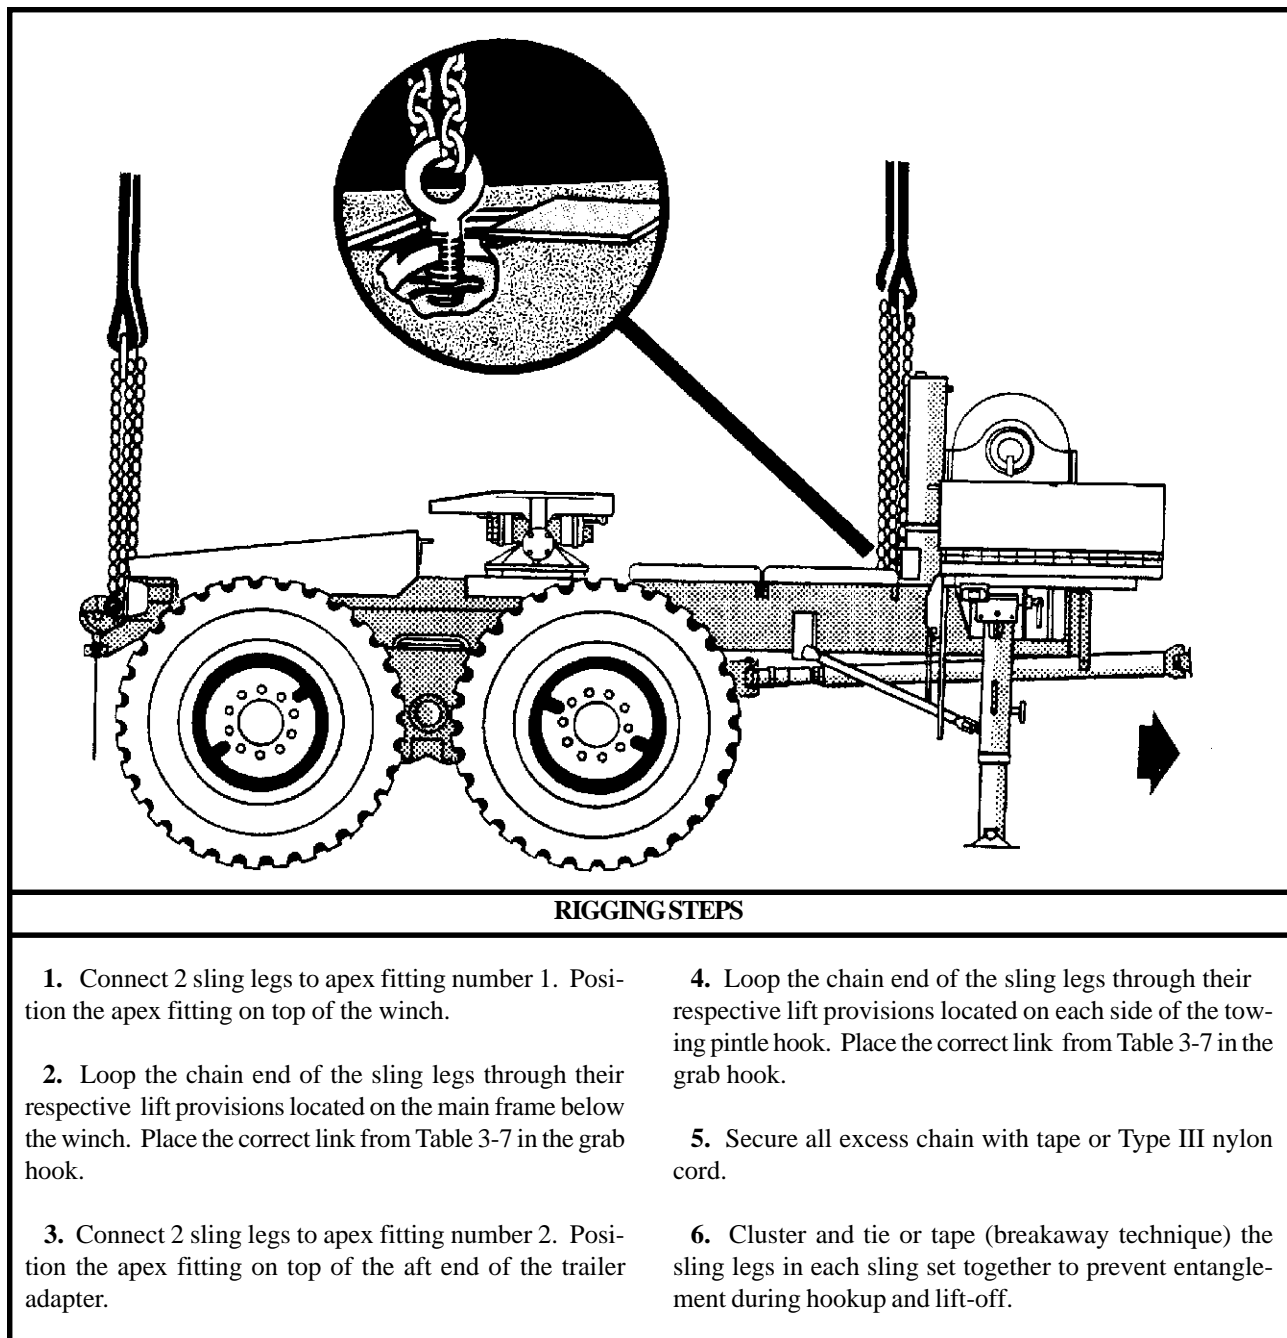

Figure 3-7. Mk16 Trailer, Fifth-Wheel Adapter
(2) **Rigging.** Rig the load according to the steps in Figure 3-7.
(4) **Derigging.** Derigging is the reverse of the preparation and rigging procedures in steps d (1) and d (2).